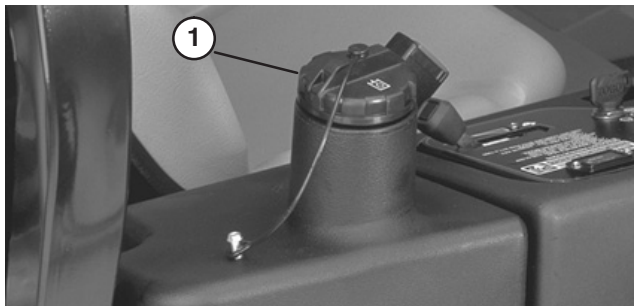

Figure 33
2. Clean area around filler neck and cap of hydraulic tank (Fig. 33). Remove cap from filler neck.